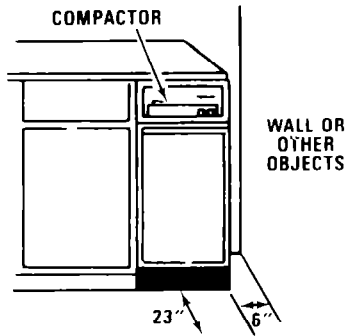

FIGURE 3
2. Your compactor is designed for recessed installation. A six (6) inch clearance from the right edge of the drawer front is desirable for added convenience in bag removal. Also allow twenty-three (23) inches in front of the appliance for drawer removal. *See Figure 3.*